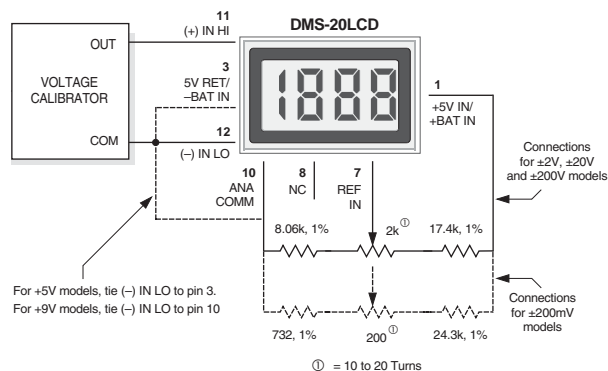

Figure 9. External Gain Adjustment
- 6. Gain Adjust:** There is a gain-adjust potentiometer on the back of each meter. It has approximately ± 50 counts ($\pm 2.5\%$) range of adjustment. Since these devices essentially have no zero/offset errors, a gain adjustment is effectively an overall accuracy adjustment. Though they may be performed at any point (except zero), accuracy adjustments are most effective when performed with higher level input signals. The circuit shown in Figure 9 provides $\pm 10\%$ range of adjustment.
- 7. External Gain Adjustment:** Connect REFERENCE OUT (pin 8) to REFERENCE IN (pin 7) for normal, factory calibrated, operation. Use the circuit shown in Figure 9 for applications needing external gain adjustment. Calibration is performed with a precise, near-full-scale, input voltage.